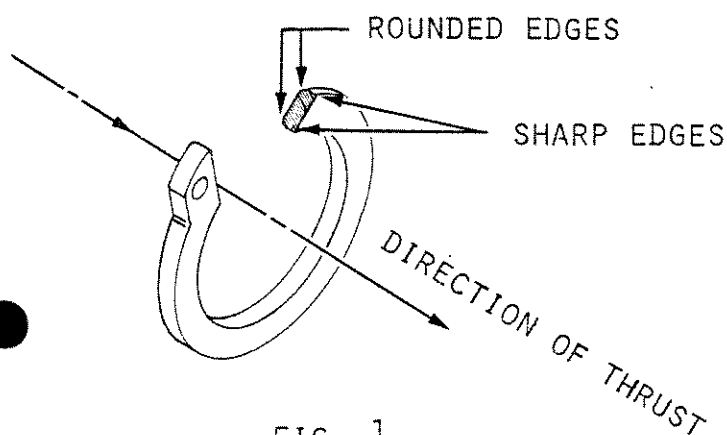

FIG. 1
1. When installing the stamped circlips in a thrust situation (transmission shafts, fork tube caps, etc.) install the circlip in its groove with the sharp edge facing away from the part producing the thrust. (See figs. 1 and 2)